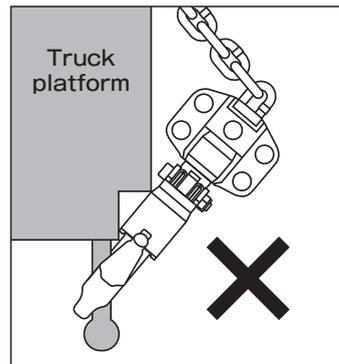

Figure 18
- (39) Do not hang the hook in a way that places a burden on the neck (neck breakage). (Do not use the hook with lateral bending force.) Attach the wire sling to the rope hook first and then tighten the load. (Figure 18)